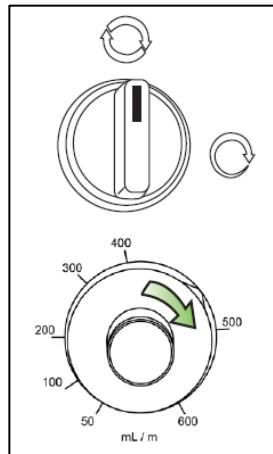

Figure 5-3
1. Calculate the NO dose based on the ventilator flow rate using the Lookup Tables (see section 6.12.2) or the On-Screen-Guide, and rotate the dose knob to the desired value (see Figure 5-3).